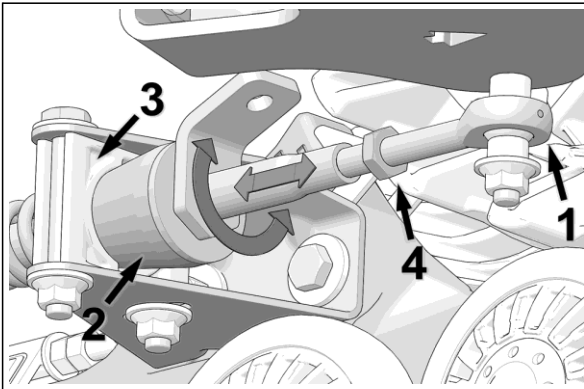

Figure 15
- Loosen jam nut (4). Turn stabilizing arm to adjust length of rod end (1) so that rubber cone (2) applies light pressure on anti-rotation retainer (3). Figure 15.